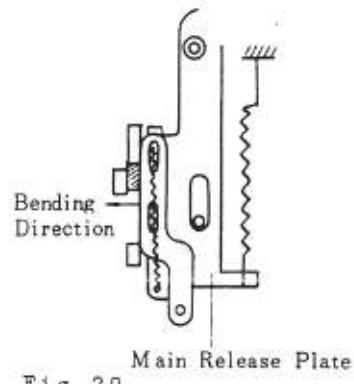

Fig. 20
- (B) In case the main release plate does not return in self-timing, bend the projection of the main release plate in the arrow direction indicated in Fig. 20.